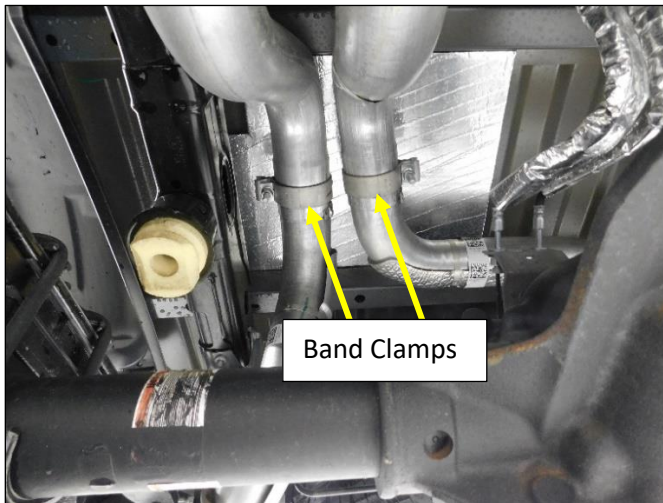

Figure 1
2. Loosen the 15mm nuts on the tailpipe band clamps directly over the rear axle. **Fig.1**